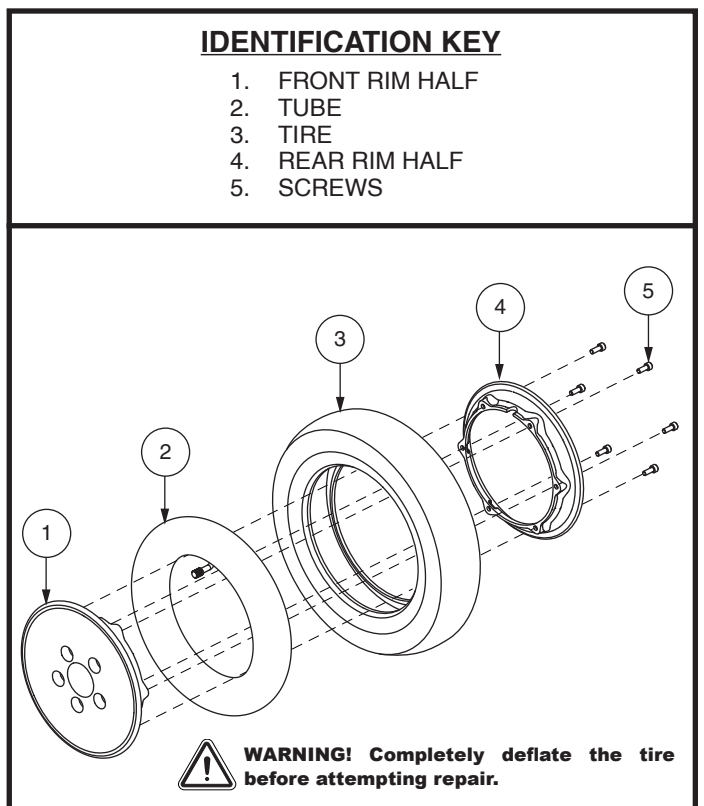

Figure 29. Pneumatic Drive Wheel Disassembly/Assembly
6. Remove the screws and separate the rim halves. See figure 29.